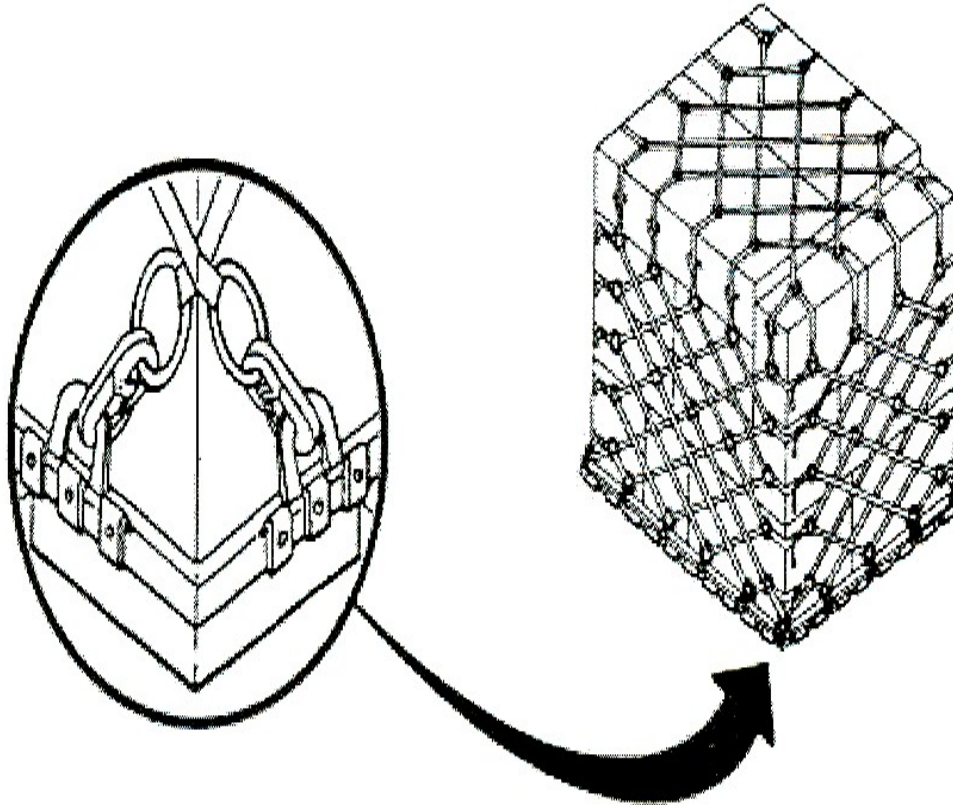

Figure 3-12
h. Secure the ends of the straps, tuck them in to ensure they will not become caught in the rail system when loading the pallet aboard the aircraft or in storage (see Figure 3-12).